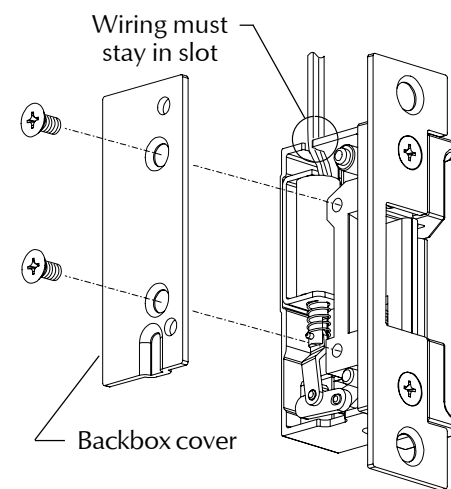
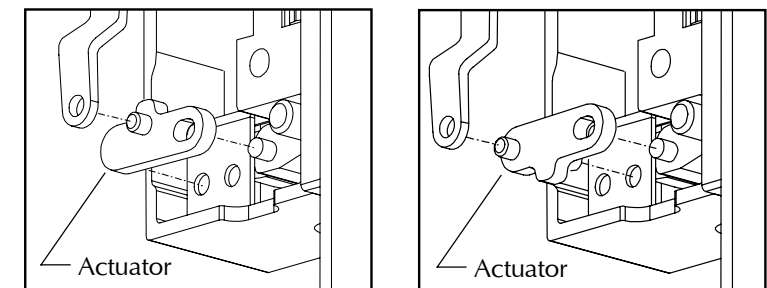

Figure 2
Figure 3
4. Make sure strike operates in correct mode. Lip of fail-safe (FS) strike can be moved when strike is not powered. Lip of fail-secure (FSE) strike cannot be moved when strike is not powered. If necessary, remove backbox cover (Figure 2) and change strike mode by repositioning actuator (Figure 3).